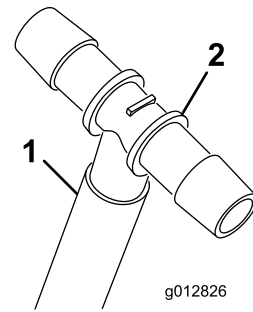

Figure 16
- A. Insert a clamp onto the short hose and then insert the tee fitting into the end of the short hose (Figure 16).